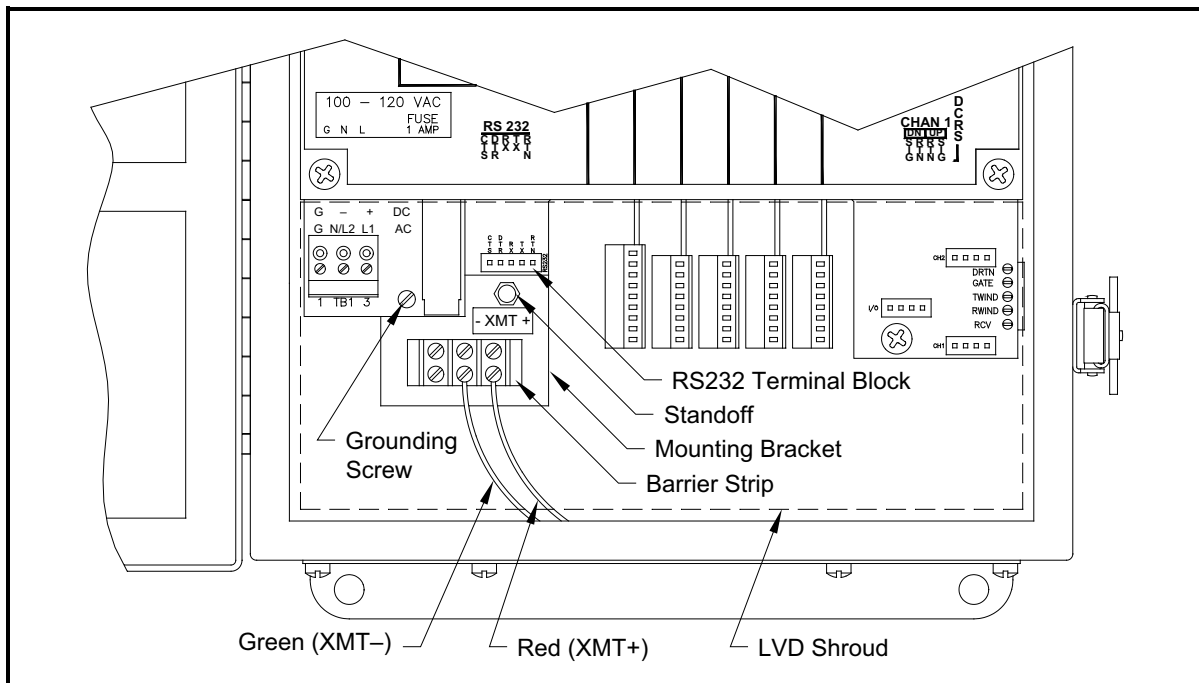

Figure 9: Interface Converter Mounting
A special bracket containing the serial interface converter and a three-terminal barrier strip is mounted inside the Model GS868, just below the RS232 terminal block (see Figure 9 below). The standard **RS232** terminal block is wired to the input of the serial interface converter, and the RS485 output of the serial interface converter is wired to the barrier strip.
Standard factory wiring of the RS485 serial interface is configured for point-to-point wiring. That is, a single Model GS868 may be wired directly to a single personal computer. To connect the RS485 serial interface, refer to Figure 9 on page 75 and complete the following steps:
3. Remove the serial interface converter *mounting bracket* by removing the standoff located just below the **RS232** terminal block and the grounding screw to its left (see Figure 9 on page 75).